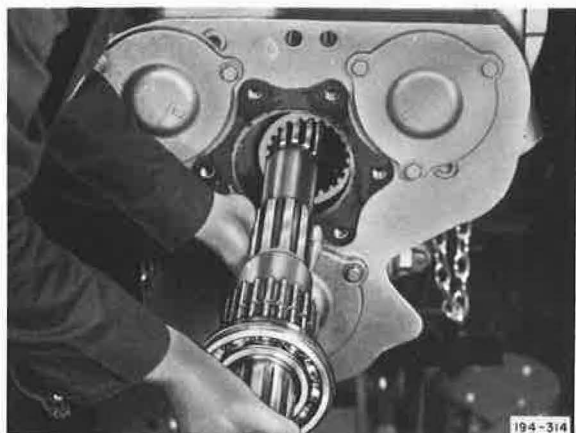

Figure 5-127. Removing Mainshaft
6. Carefully withdraw mainshaft from case through rear bearing opening. See Figure 5-127.